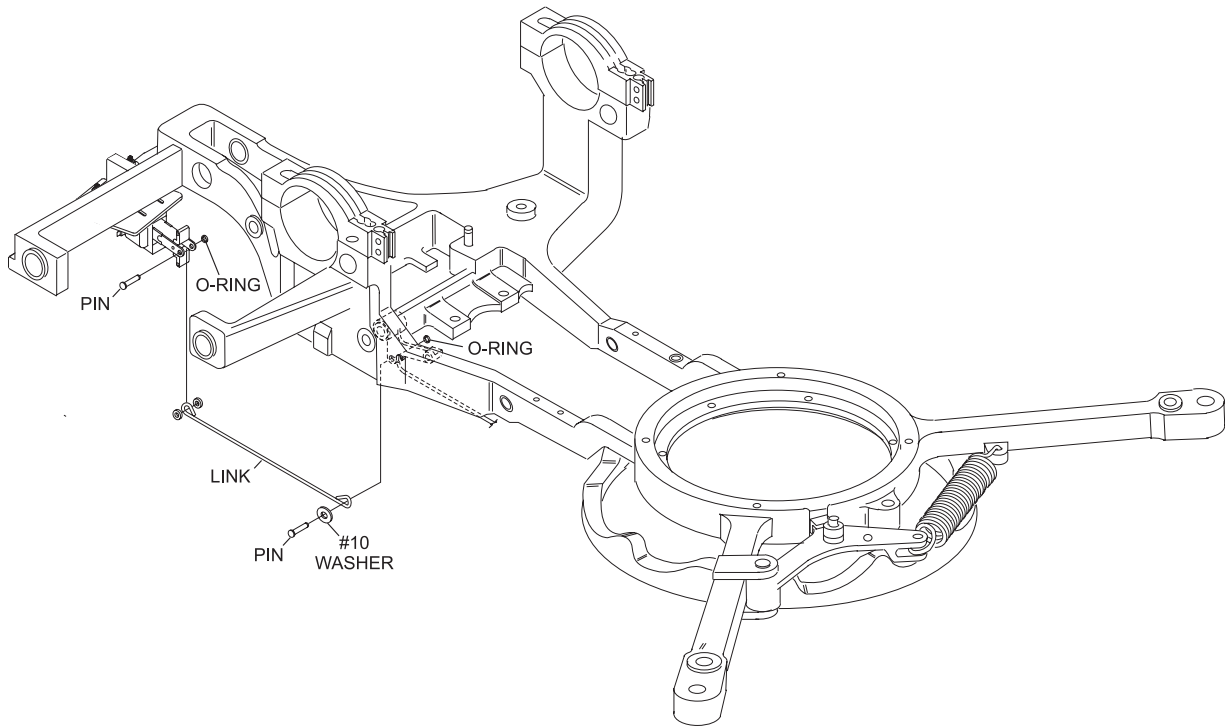

Figure 2
4. Install the mounting plate with the solenoid fastened to it from under the turret. Lift the mounting plate, with the clamp end toward the rear of the turret frame, until the plate can be lifted enough beyond the turret frame to allow the clamp end to hook over the rear of the turret frame. Then pull the mounting plate forward. At that point the mounting plate is hanging loose from the turret frame. Move to the top of the pinsetter and reach down to position the solenoid and mounting plate and tighten the set screws and jam nuts. Make sure the bracket is level with the turret frame. *Figure 2 shows location of the solenoid mounting plate after installation.*
1. Install the new solenoid plunger and link assembly into the new solenoid. The end loops of the link should be facing up to provide clearance from the frame. The new link attaches to the turret indexing bell crank. Use the new longer O-Ring pin with the new link on the outside (7 pin side) of the turret indexing bell crank and put the indexing link back in its normal position. Some turret frames may require dropping the turret indexing bell crank down to get clearance to install the longer pin. Secure the O-Ring pin with the #10 washer and O-Ring provided. Check to make sure that the new link does not bind against the turret frame or the turret pan. If there are clearance issues, the new link may be bent slightly. Refer to *Figure 2*.